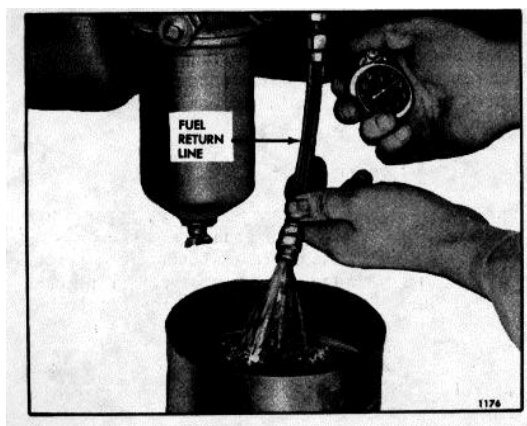

Fig. 6 Measuring Fuel Flow
1. Disconnect the fuel return hose from the fitting at the fuel tank and hold the open end in a convenient receptacle (Fig. 6).